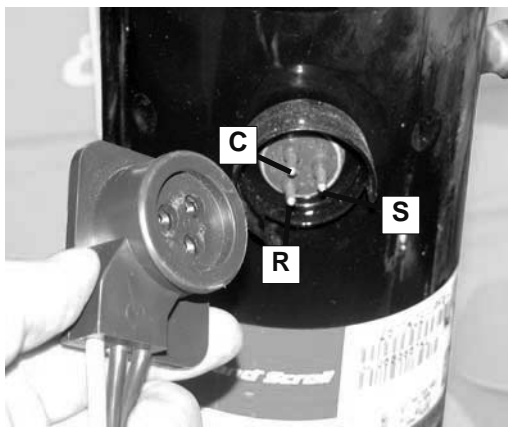

Figure 5-3 Compressor Connection
- C. Pull the compressor connector plug off of the compressor. The compressor has three terminals; C (common), R (run), and S (start). (Refer to Figure 5-3)
- G. Connect the electrical plug to the compressor. The plug is keyed and will only install one way. (Refer to Figure 5-3)